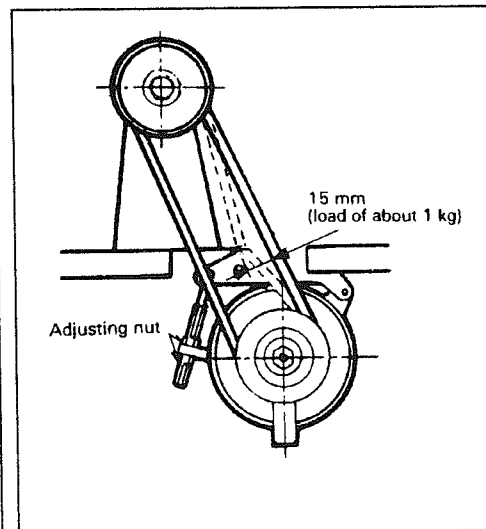

Fig.4
7、 Installing the belt (Fig.4):